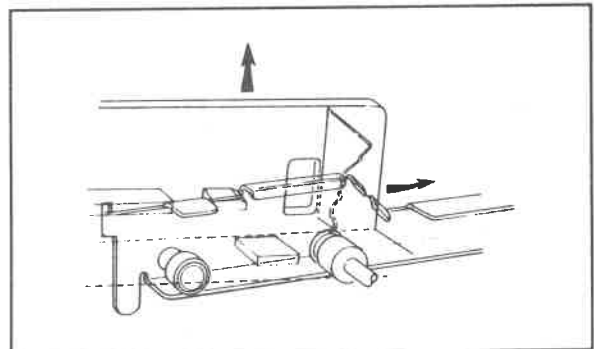

Figure S-3b
- \* The tab near the back of the tray should align with the cut-out in the top of the guide rail. See Figure S-3b.